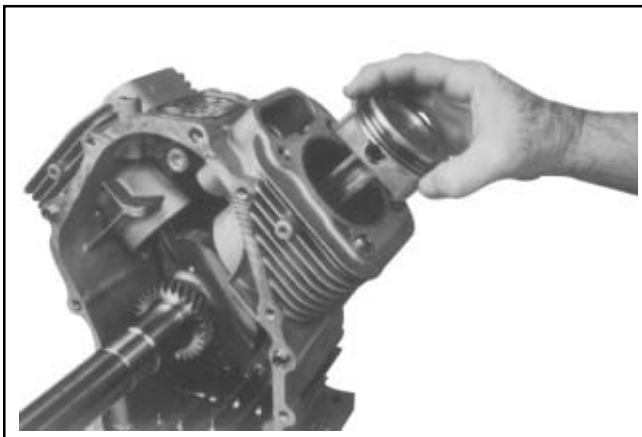

Figure 9-55. Removing Connecting Rod and Piston Assembly.
2. Carefully remove the connecting rod and piston assembly from the cylinder bore. See Figure 9-55.